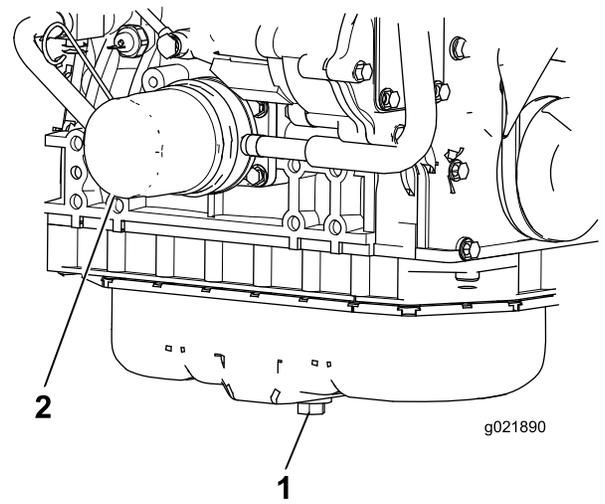

Figure 41
2. Remove the oil filter (Figure 41). Apply a light coat of clean oil to the new filter seal before screwing it on. **Do not overtighten.**
1. Remove the oil-drain plug (Figure 41) and let the oil flow into a drain pan. When all the oil is drained, install the drain plug.